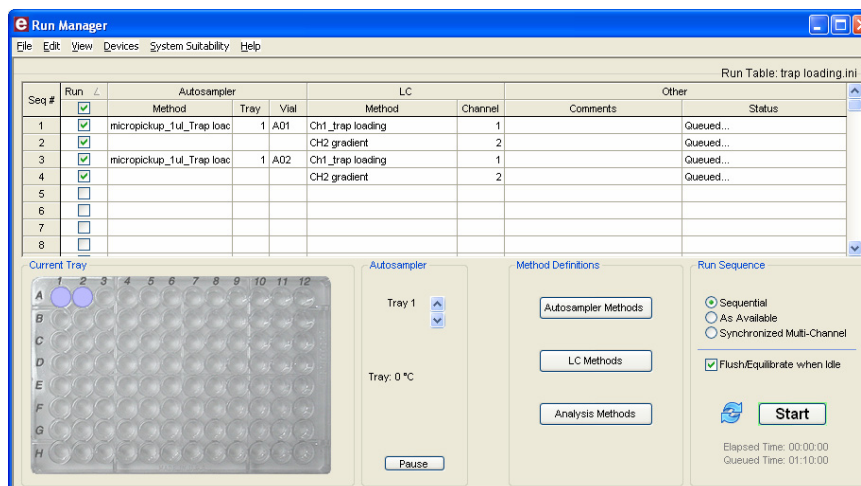

Figure 5-16. Run Manager Window – Two Samples
- step 9* For each sample you wish to run, duplicate these two lines in succession. In Figure 5-16, two sample injections are indicated.
step 12 Now that the run table has been defined (Figure 5-16), save it by selecting **File > Save**.